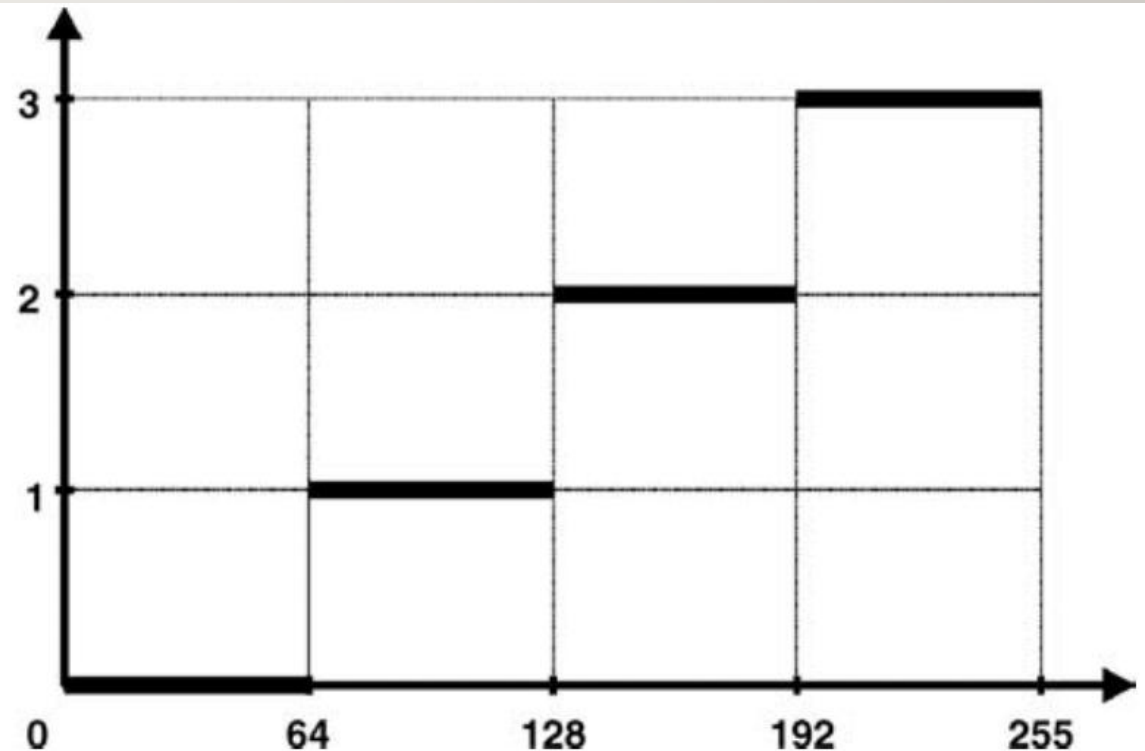

FIGURE 5.15 A mapping function for uniform quantization ($N = 4$).
- This process is illustrated in Figure 5.15, which depicts the case where the number of gray levels is reduced from 256 to 4 by uniform quantization, meaning that the input gray level range is divided into N equal intervals of length 64.